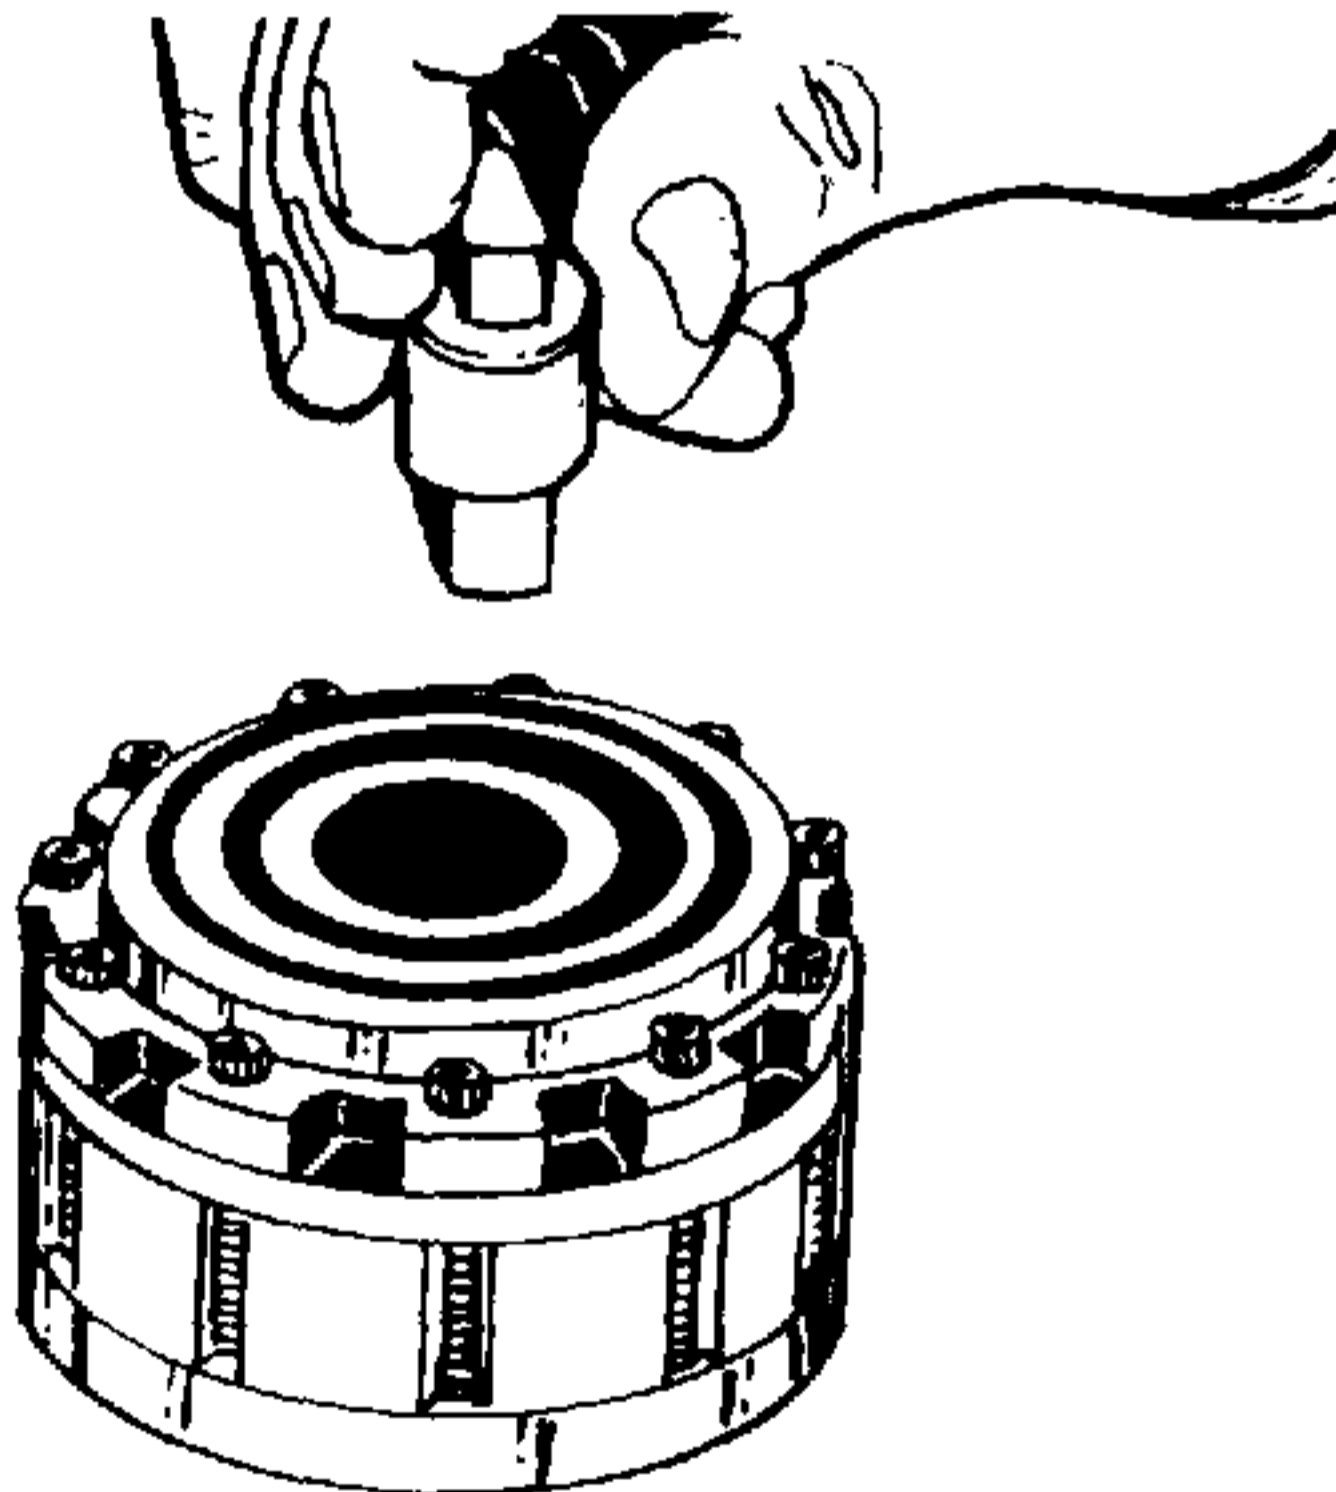

Figure 4-67. Installing Drive Link In Rotor.
20. Insert large tang of the drive link (14, Figure 4-1) into the slot in the rotor (22). See Figure 4-67.